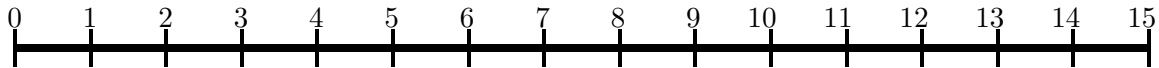

Figure 23: Ruler for characterizing the horizontal proximity sensors.
6. Locate Figure 23, the 15cm ruler, which you will use for this portion of the lab.